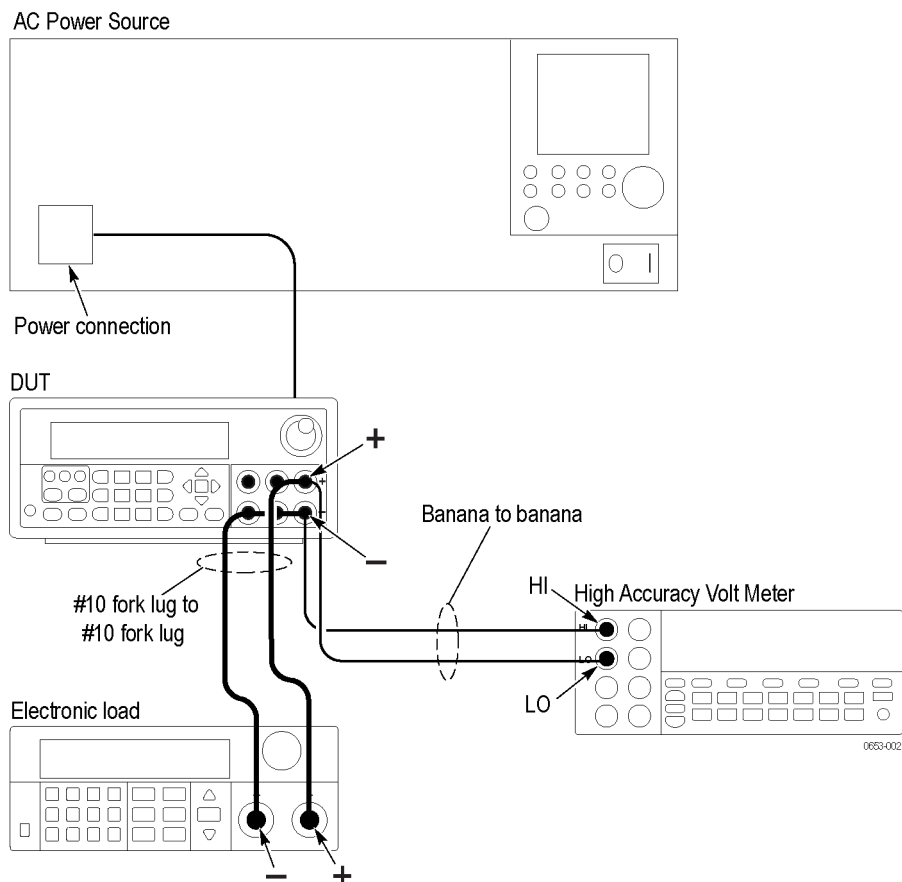

Figure 5: Voltage accuracy, regulation, and protection test setup. The channel 1 test setup is shown.
1. Set up the equipment as shown. (See Figure 5.)
This check procedure uses the same test setup as the previous procedure. (See Figure 5.)